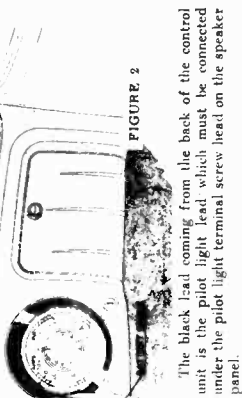

FIGURE 2
**Battery Connections (SEE FIG. 2)**
**Antenna Lead (SEE FIG. 2)**
In fastening the studs to the Receiver the lock washer is placed between the Receiver and the shoulder on the bolt. The large flat washer is used against the padding on the inside of the dash. Extra nuts are furnished to be used as spacers. Mount the Receiver with the control shaft couplings towards the center of the car and with the speaker facing down. See Figure 2. On the 1220 and 1280 models the throttle control wire should be disconnected to facilitate installation.